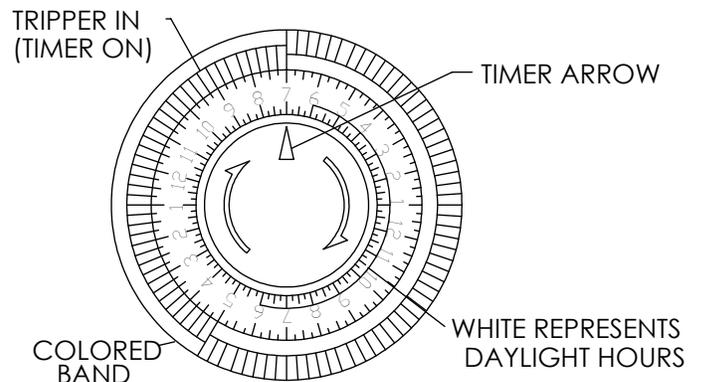

Fig. 2
- B) Set current time by rotating clock dial clockwise until correct time on dial lines up with timer arrow. (See Fig. 2)